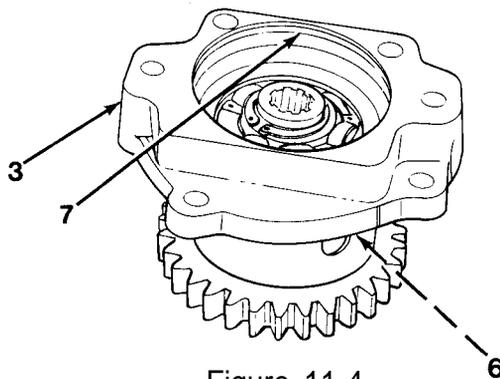

Figure 11-4
7. Install O-rings (7) and (6) to pump adapter (3, Figure 11-4).